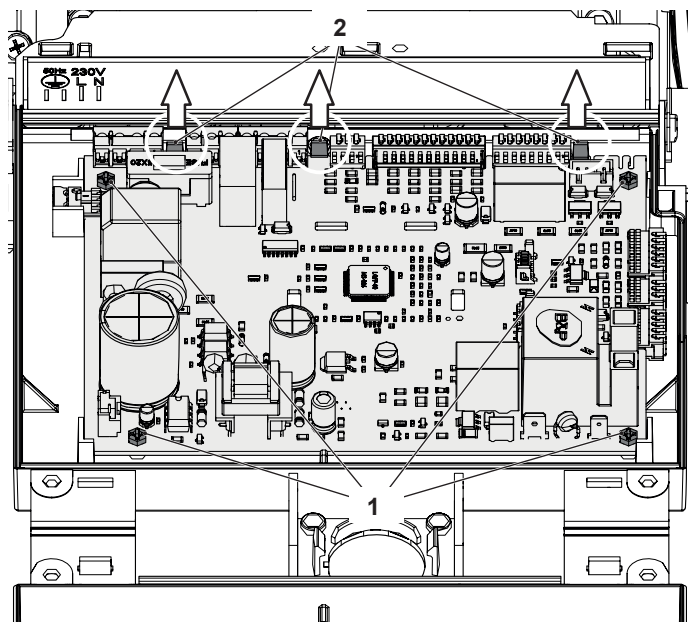

Figure 7.13
- 3 Unscrew the screws "1" (Figure 7.13).
- 4 Delicately flex the hooks "2" in the directions indicated (Figure 7.13) in order to release the circuit from the box.